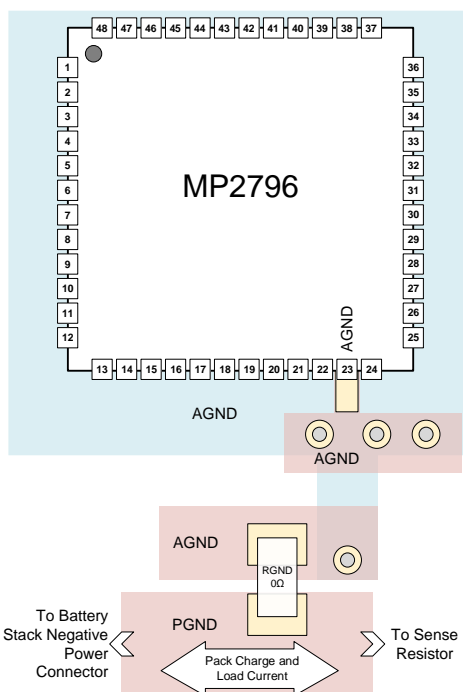
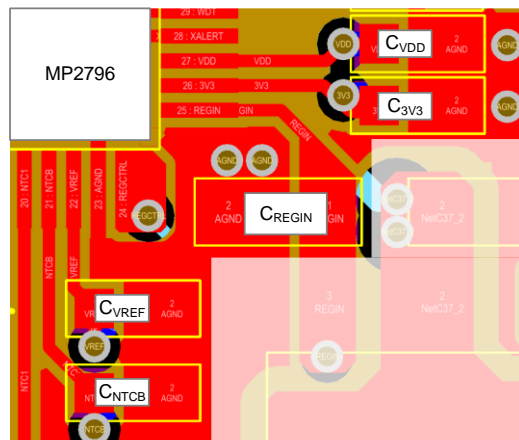
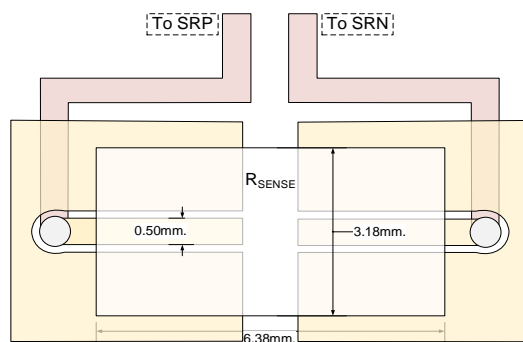

Figure 19: Recommended Layout for AGND
Figure 20: Recommended Layout for Decoupling Capacitors
Figure 21: 2512 Sense Resistor using 4-Wire Footprint
Proper PCB layout is critical to reduce noise, and to optimize the device's accuracy and reliability. For the best results, refer to Figure 19, Figure 20, and Figure 21, and follow the guidelines below:
1. Route the ground plane such that it reduces ground noise and prevents stray current (see Figure 19).
to each pin. Minimize the trace inductance from these pins to AGND (see Figure 20).
6. Consider Kelvin connections at the sense resistor. A sense resistor with a dedicated sensing pad is ideal. A simple two-terminal sense resistor can be used in a 4-wire sensing configuration (see Figure 21).